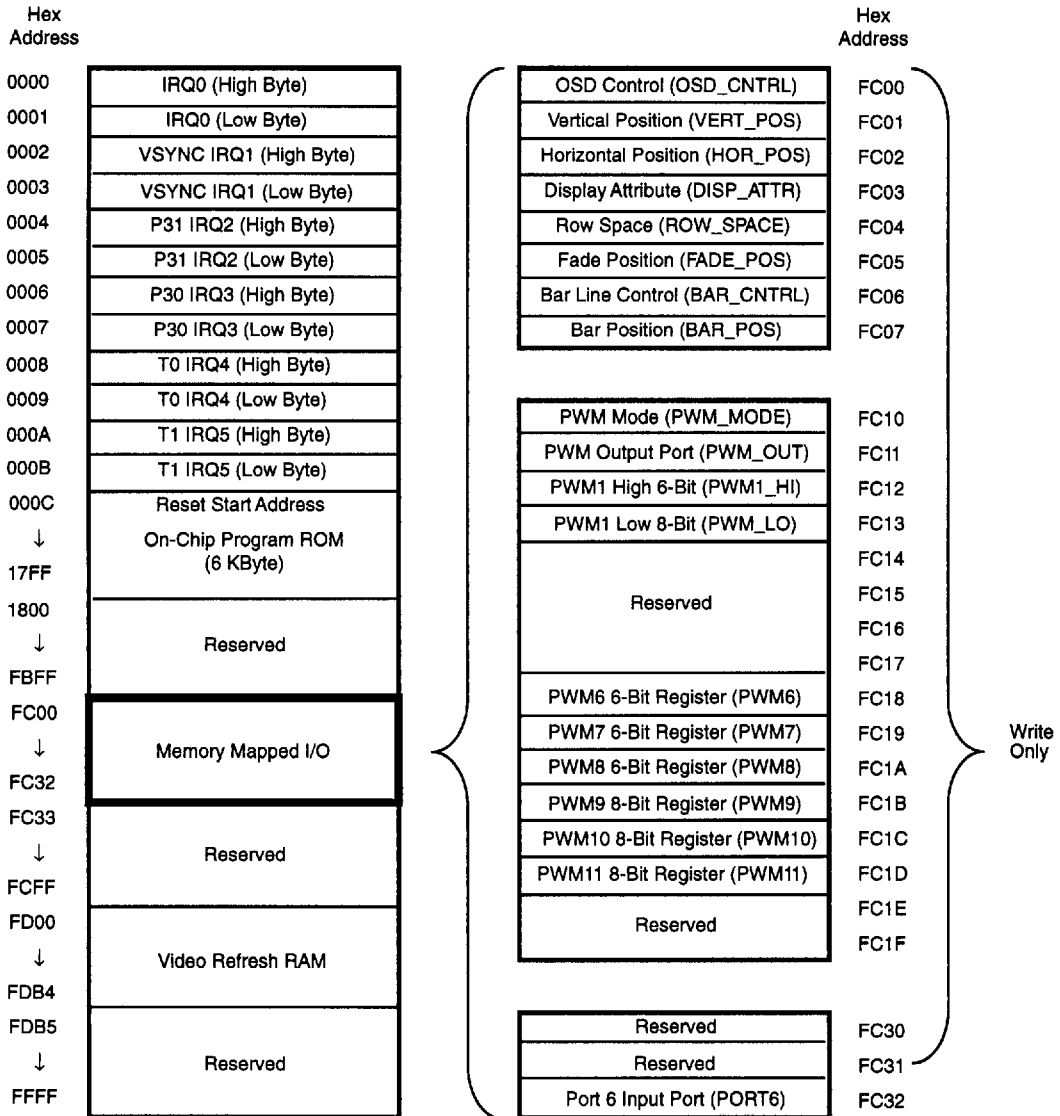

Figure 12. Program Memory
**Program Memory.** The program ROM size is 6 Kbytes (Figure 12). The IRQ vector table is located in the lower address space. The vector address is fetched after the corresponding interrupt and program control is passed to